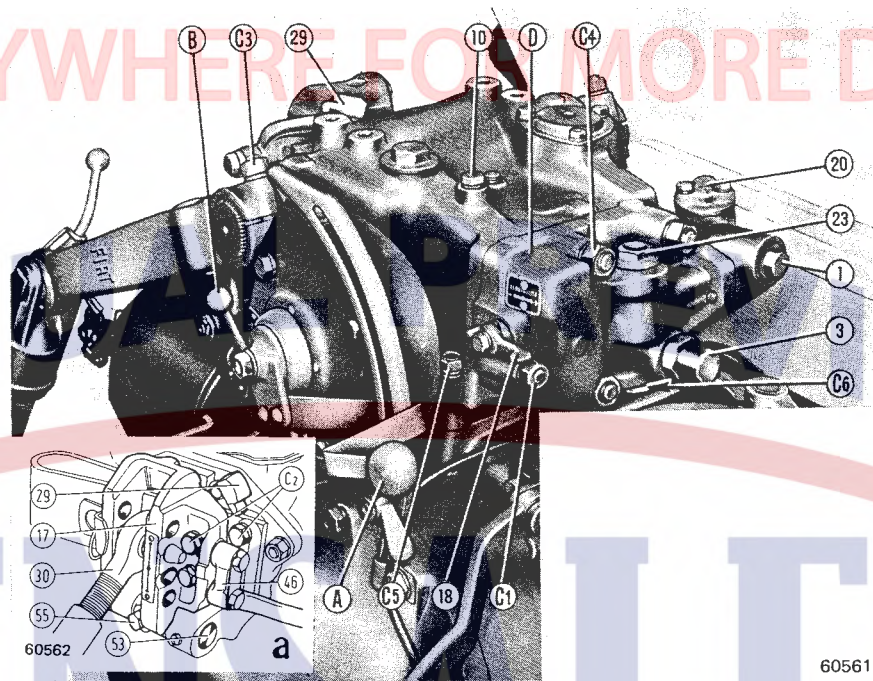

FIGURE 1 - Hydraulic lift installed on tractor
2. A hydraulic lift unit (Figure 1) which includes position control, draft control and associated linkage and using oil from the transmission housing.